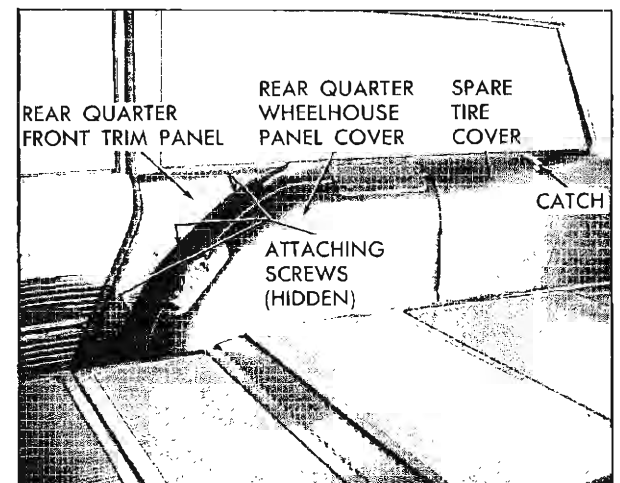

Fig. 4-15 Right Rear Quarter Trim—Station Wagon
2. Remove attaching screws securing trim panel to quarter inner panel and spare tire cover support (Fig. 4-15).